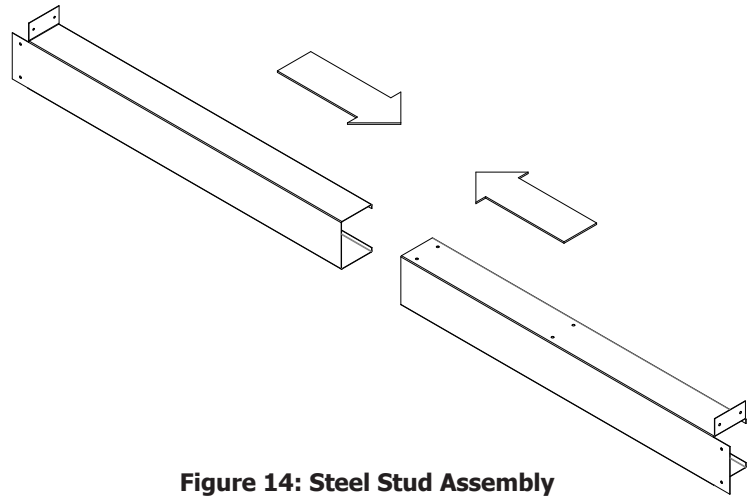

Figure 14: Steel Stud Assembly
1. Take the two steel stud pieces and slid them into each other. The flanges of each piece should be at the end of the assembly, as well as facing upwards as shown in Figure 14.